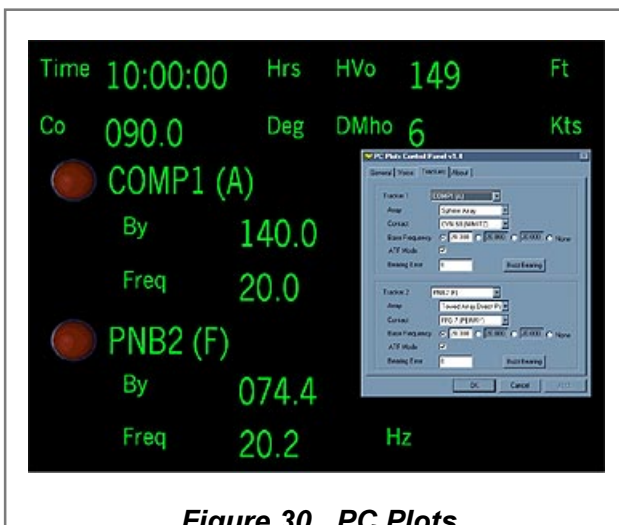

Figure 30. PC Plots
PC Plots was developed to eliminate the need to author new SORAT scenario tapes to be used for training Extended Time Bearing (ETB), Geo and Time Frequency (TF) plotting in the tactical plotting laboratories. It allows an instructor to construct new scenarios very quickly, by using SubScript II. Using PC Plots, students can listen to the auditory reports of bearings, faired bearings, and frequencies related to tracked contacts to obtain the data needed to plot on the Geo, TF, or ETB plots. In addition, a Data Display Unit (DDU) is simulated (Figure 30).